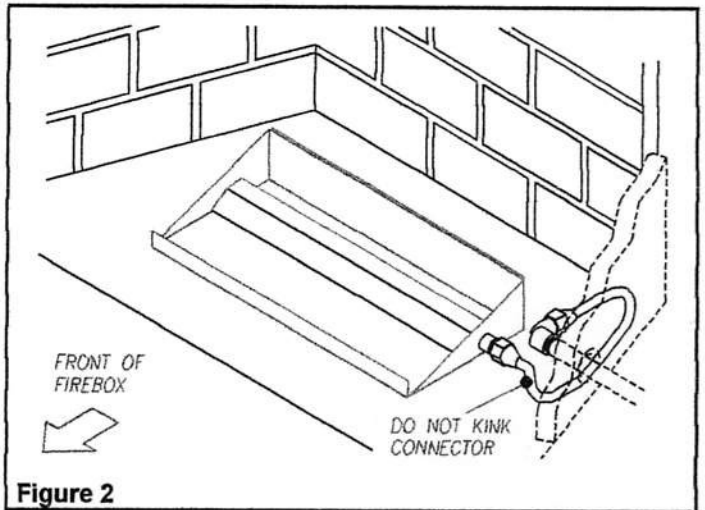

Figure 2
3. Position burner base in the center of the fireplace hearth. Apply pipe thread sealant on the opposite end of the burner pan gas supply inlet side and install the 3/8" pipe plug. Tighten securely. Apply thread sealant on the incoming gas line and install the 1/2"-3/8" NPT street elbow fitting tightly. The male end of the fitting should point towards the rear of the fireplace. If a flexible, aluminum gas line connector is used (check local codes), be careful not to kink tubing when hand forming to fit between burner pan and incoming gas line (**Figure 2**). It's important that the gas supply line fitting nuts are towards the outside ends; once the line is bent, the fitting nuts will not slide over bends. **Be careful not to kink tubing !**